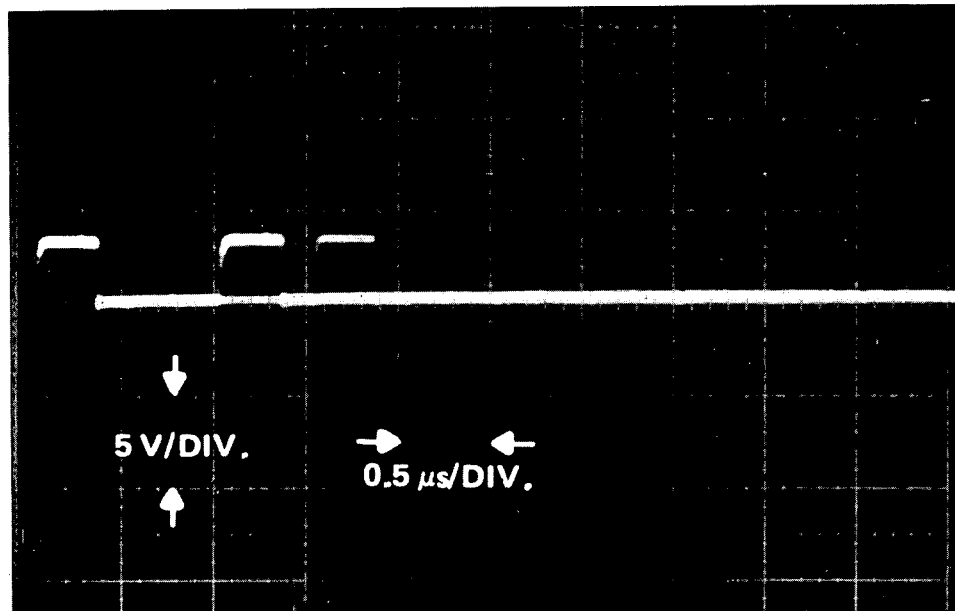

Fig. 12.
5. (a) Increase the delay until all delayed pulses fall in the third or fourth cycle (Fig. 12).